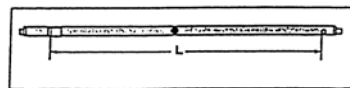

Figure 1 Measuring Tube Length
- 1) Measure  $L$ , the length of the copper tube at room temperature. Measure from the inner edge of the stainless steel pin on one end, to the inner edge of the angle bracket at the other end (see Figure 1). Record your results in Table 1.